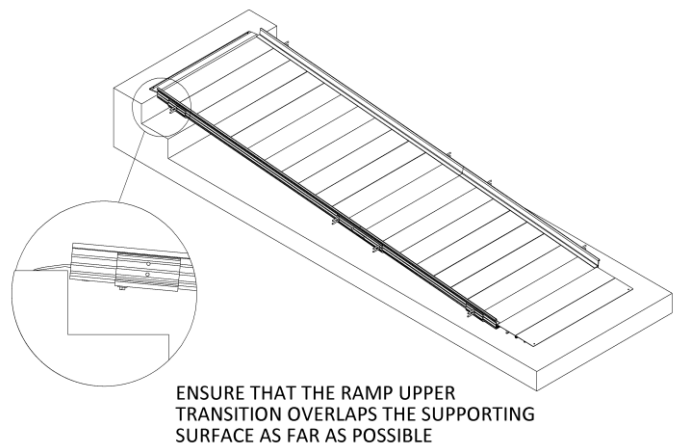

FIG. 4.15
- 4.5.5. Maneuver the ramp to its desired position (FIG. 4.15).